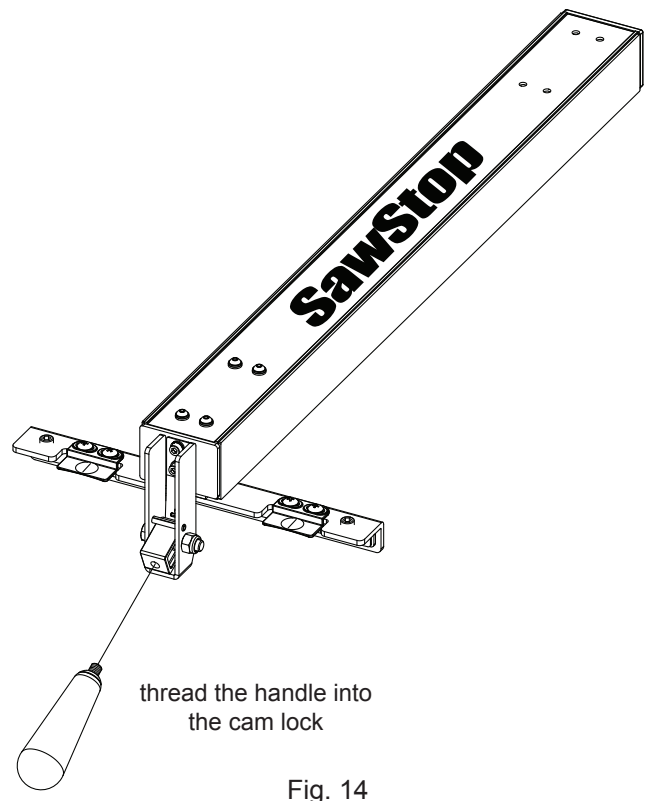

Fig. 14
14. Locate the fence and the red fence handle. Thread the handle into the cam lock on the front of the fence (see Fig. 14).